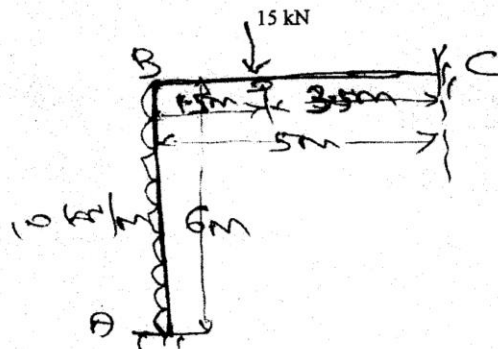

Figure-8
8. Analyse the structure shown in figure-8 by stiffness method. Take EI is constant.